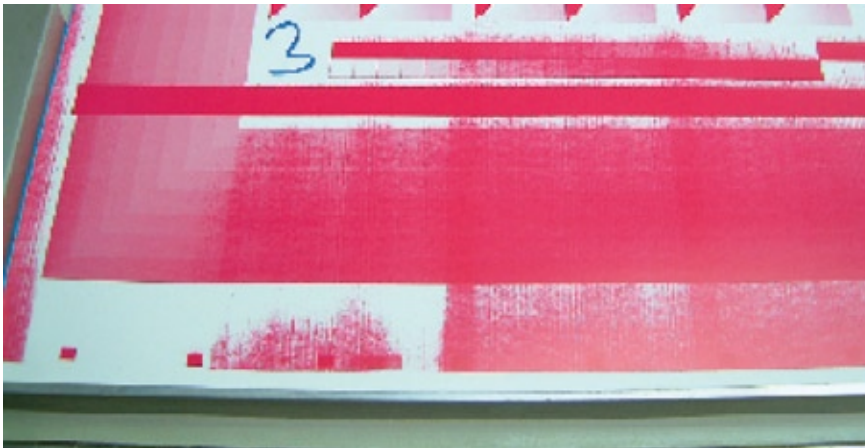

Fig. 3 [top] and Fig 4 [bottom]: The printed sheet [top] clearly shows the impact of the defective rollers in the inking unit.
- chalk coating on rollers and unclean inking units [fig. 3 and fig. 4]